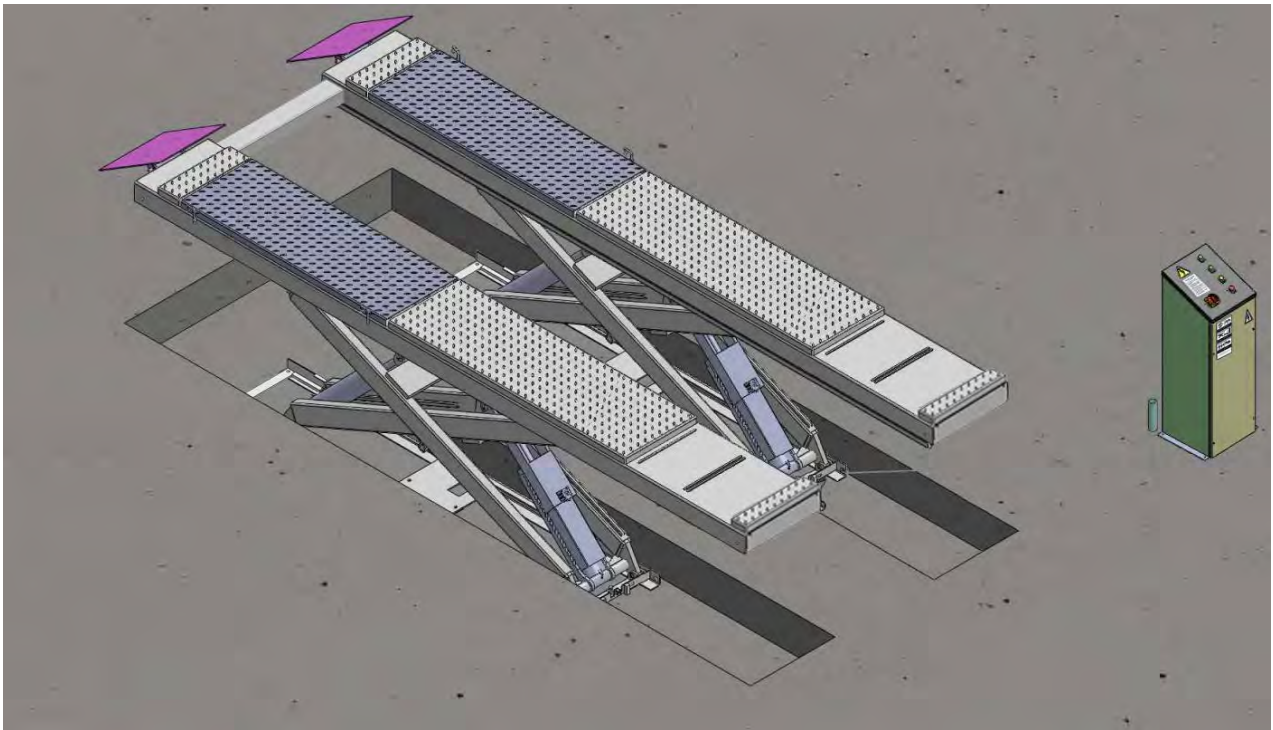

Fig. 9
2.3 Illustration of scissors lift 30-SS1203A flush mount installation (Fig.9).